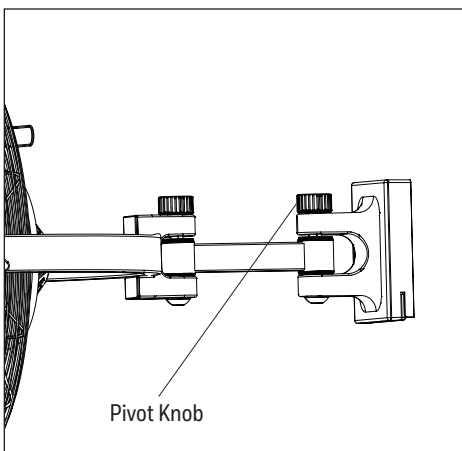

Figure 2.5
5. There are two pivot hinges between the base and the fan. To adjust the hinges, loosen the pivot knobs, move fan in desired direction and tighten the pivot knobs (Figure 2.5).